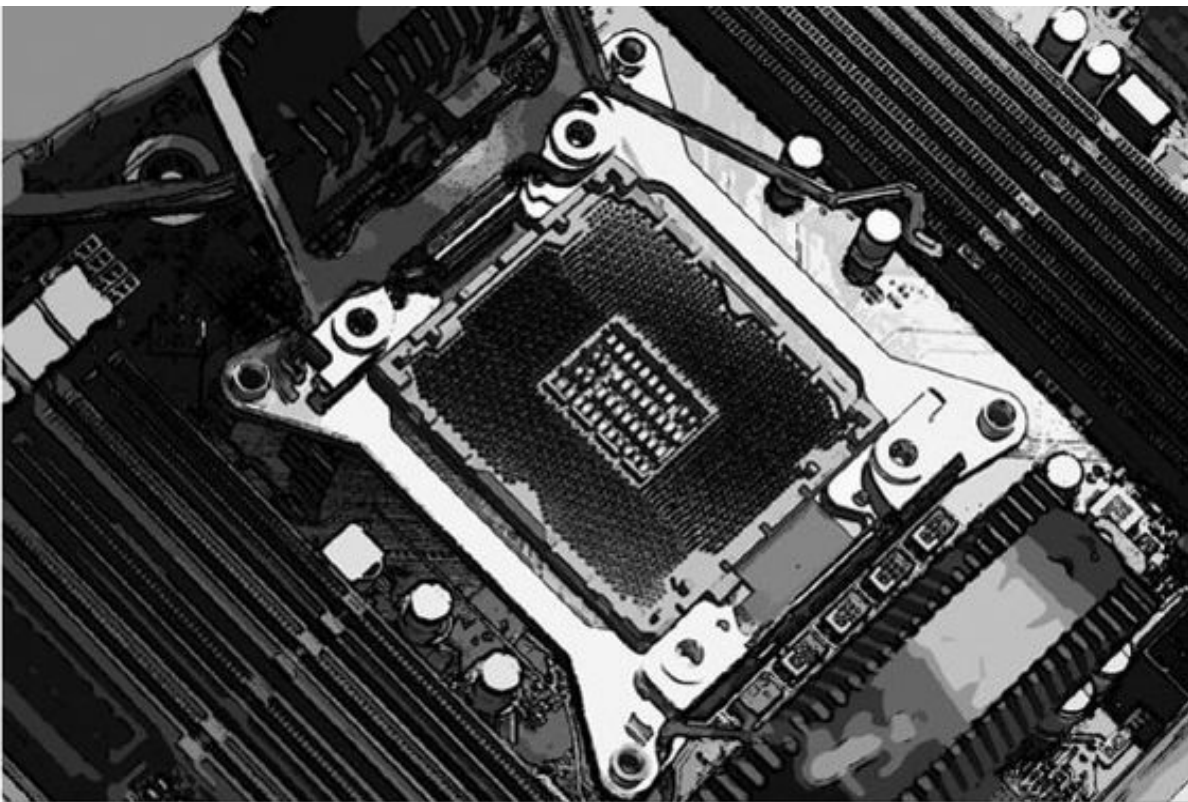

FIGURE 9.8 LGA2011 socket. (Courtesy of Intel®.)
Another use for these 19 pins is placing data into a different location than where the program instructions are located in the memory. The same 19 pins are used for retrieving data out of the memory as well. As each pin has a state of either 0 or 1, if all 19 of them are used, there are  $2^{19} = 524,288$  different numbers possible. This means  $\frac{1}{2}$  MB of memory can be addressed by this chip. It is a small amount for a computer today, but 128 times more than the 4096 locations a 4004 could select. By contrast, the LGA2011 processor in Fig. 9.8 can address 34,359,738,368 bytes which is 32 gigabytes (GB) of memory. It is 65,536 times what the Z-80180 can handle and over 8 million times as much as the 4004.